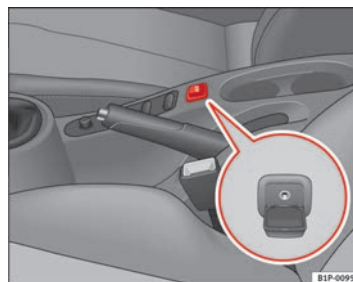

Fig. 101 Auxiliary audio connection
- Lift the AUX cover → fig. 101.